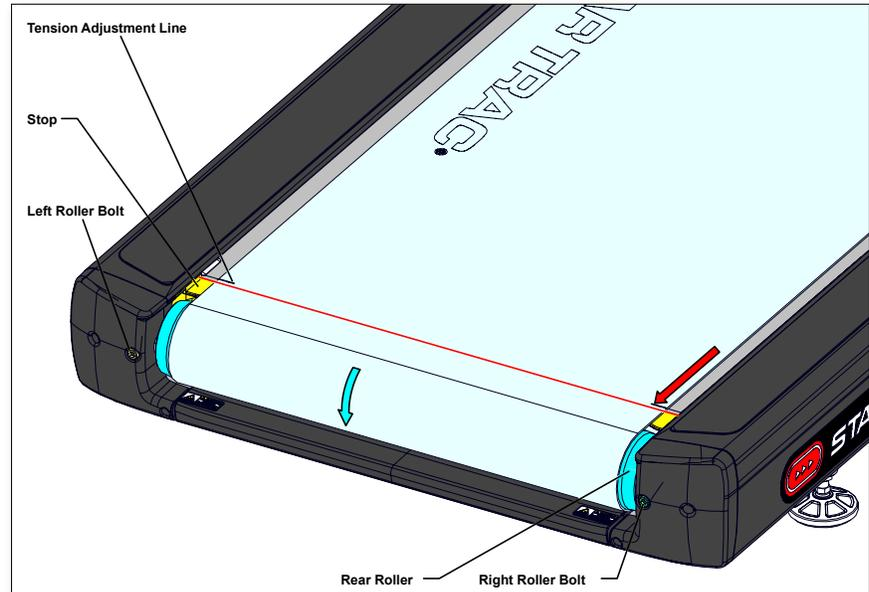

Fig. 43
2. Align the tension adjustment lines on the moving surface to the tops of stops (Fig. 43).